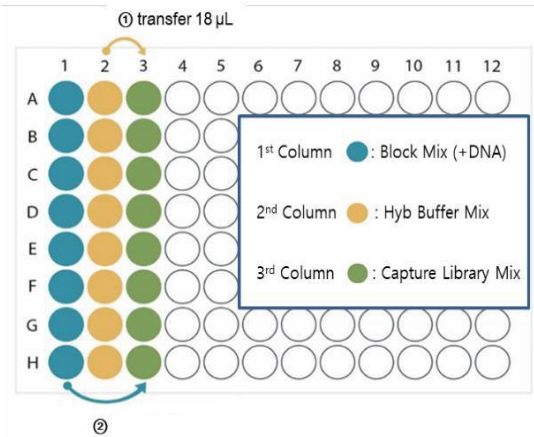

Figure 2. Mix all reagents in the 96-well PCR plate
- a. Take 10  $\mu\text{L}$  of pre-capture pooled sample to a new 8-strip tube (or 1st column of 96- well PCR plate, see figure 2).
\*When using a 96-well PCR plate, transfer Hyb Buffer to an empty column (wells without Block Mix, see figure 2) and quickly seal the PCR plate.
\* When using a 96-well PCR plate, transfer 7 µL Capture Library Mix to an empty column (wells without Block Mix and Hyb Buffer Mix, see figure 2) and completely seal the PCR plate quickly.
2. See Figure 2 before proceeding. When using the 96-well PCR plate, transfer reagents into the well (or lane) containing Capture Library Mix.
- g. Slowly pipette Hyb Buffer Mix up and down 2-3 times and transfer 18 µL into Capture Library Mix PCR tube (or PCR plate) and mix well by pipetting up and down 2-3 times (Figure 2. (1)).
- h. Transfer 15.6 µL (entire amount) of Block Mix with DNA library into Capture Library Mix PCR tube (or well) that contains reagents (Hyb Buffer and Capture Library Mix) and mix well by pipetting up and down 2-3 times (Figure (2)).